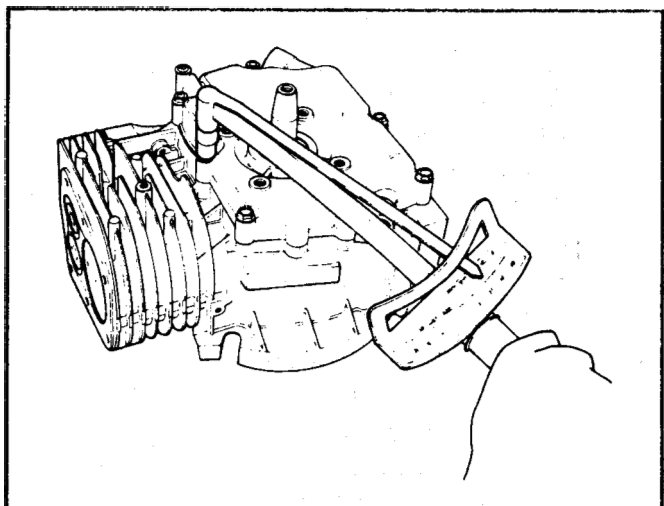

Figure 106
15. Install a gasket on the crankcase and install the crankcase side cover. Lubricate the crankshaft to assist installation. Take care not to damage the seal in the side cover. Secure the side cover mounting screws as shown in Figure 106.